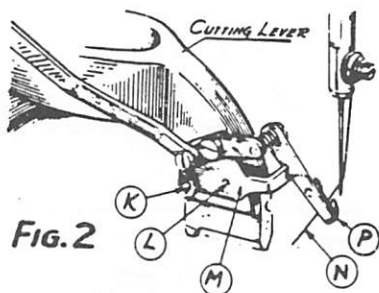

FIG. 2
THE PICK-UP HOOK (P) FIG. 2, DIPS WITH THE CUTTING LEVER AND GRASPS THE UPPER THREAD AND HOLDS IT OUT OF THE WAY FOR THE NEXT BUTTON HOLE.—THE EXTENT OF THE DIP DOWNWARD SO THAT IT WILL NOT MISS THE THREAD (N) IS ADJUSTED BY LOOSENING THE SCREW (K) AND SWINGING THE PLATE (M) UPON ITS FULCRUM PIN (L) AS DESIRED.